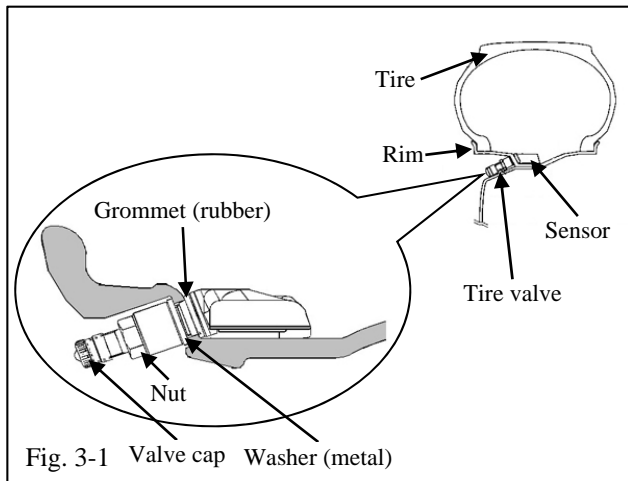

Fig. 3-1 Valve cap Washer (metal)
- (e) Insert the tire pressure monitor valve sub-assembly into the wheel valve hole from the inside of the rim and bring the valve stem to the outside (Fig. 3-1).